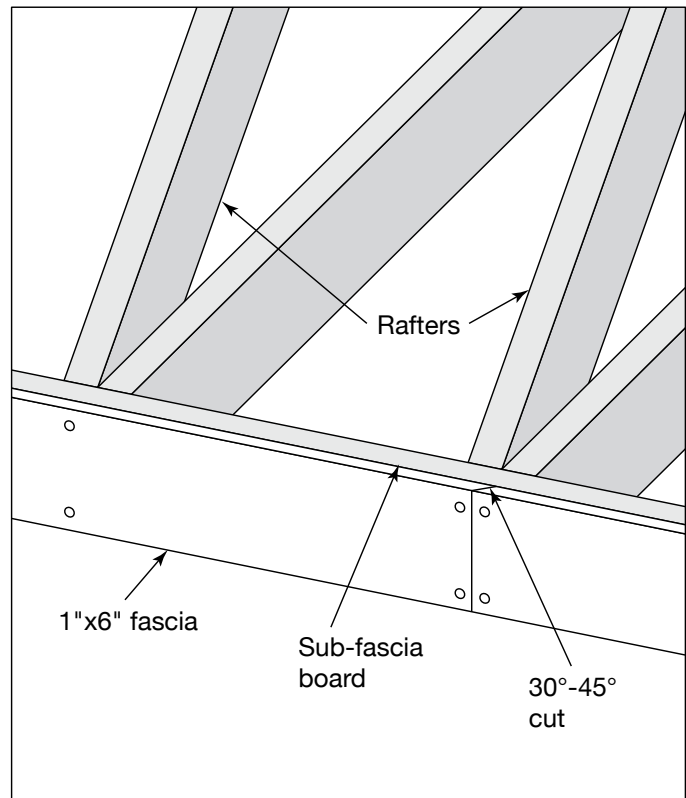

Fig. 8
- Nail the trim pieces in place with two .113 x 2-3/8" or greater stainless steel or hot-dipped hand-driven or pneumatic ring shank nails; 15 gauge trim nails; or exterior-grade trim head screws within 2" of the edge of the trim piece (**Fig. 8**).
- On long trim runs, use butt joints cut at 30- to 45-degree angles (**Fig. 8**).
Note: *TruExterior Trim may be installed directly over bricks or other masonry exteriors. When using TruExterior as fascia, a sub-fascia is required (**Fig. 8**).*